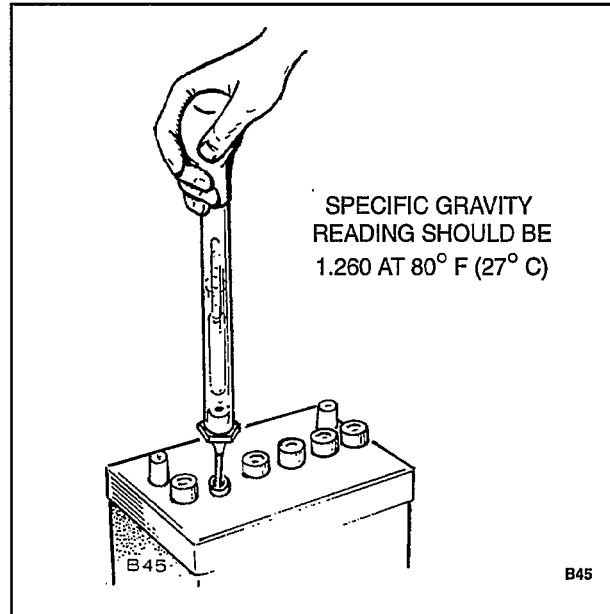

FIGURE 10. BATTERY CHECK
5. Use a battery hydrometer to check the specific gravity of the electrolyte in each battery cell (Figure 10). Charge the battery if the specific gravity measures less than 1.215. Do not over-charge the battery. Stop charging the battery when the electrolyte specific gravity reaches 1.260, at approximately 80° F (27° C).